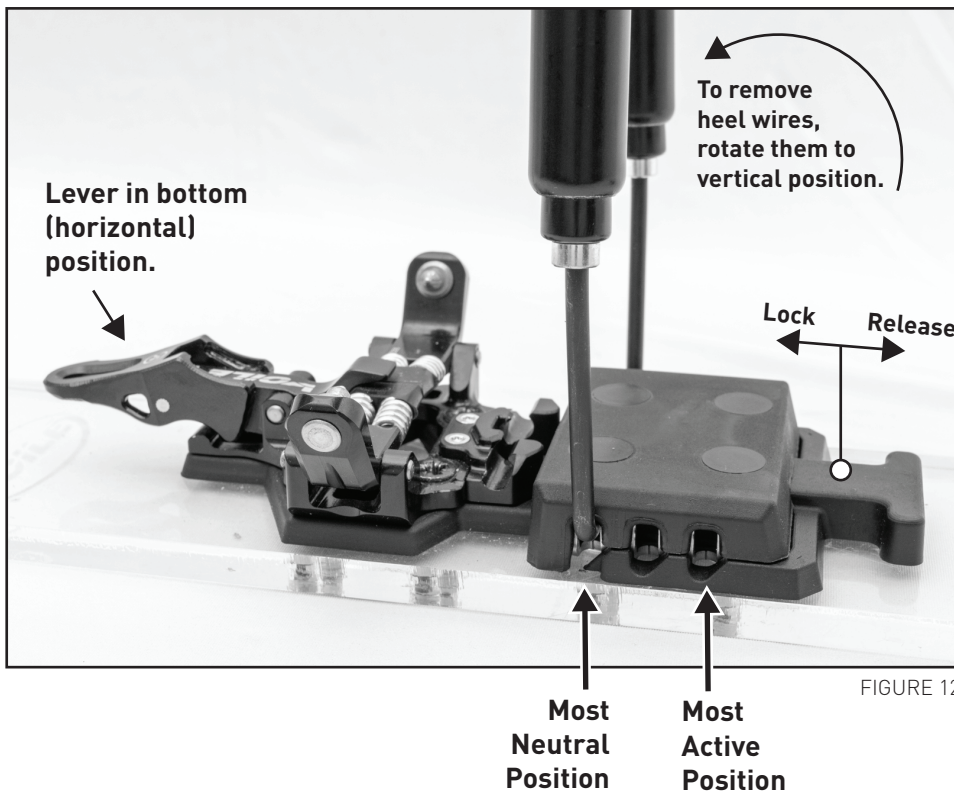

FIGURE 12
To exit the binding or to release the tech pins before stepping in, depress the lever fully to the bottom position. [SEE FIGURE 12]
- 2) Rotate the cartridge assembly forward toward the toe piece until the wires are vertical [SEE FIGURE 12].